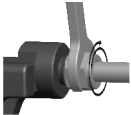

Fig. 10
- Assemble the fitting as per Tube Fitting Installation on page 5. Fig. 10